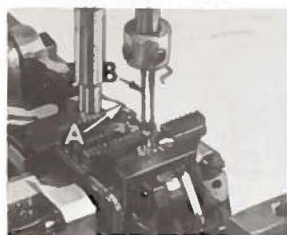

Fig. 7
The looper is set correctly in line-of-feed, if, as it moves to the left, behind the needle, its point (A, Fig. 7) brushes, but does not pick at the rear of the needle (B).